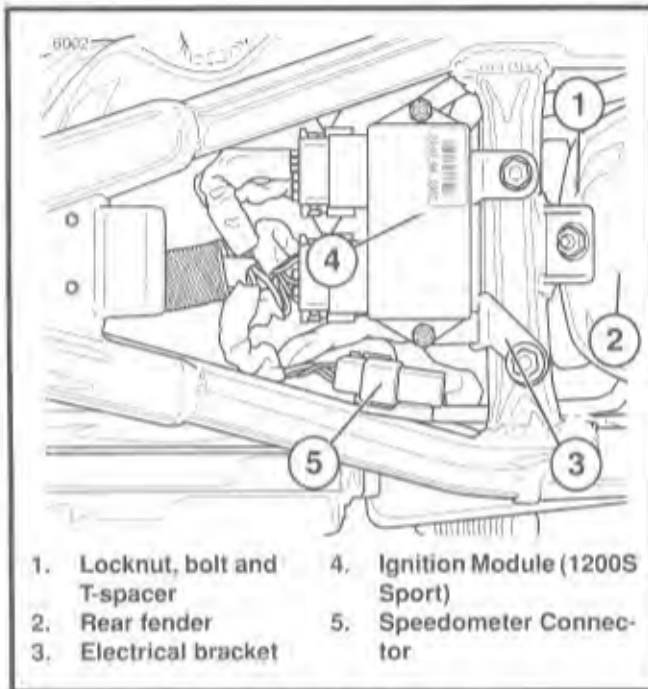

Figure 2-89. Rear Fender Removal
2. See Figure 2-89. Remove locknut, bolt and T-spacer to detach top of rear fender from tab on frame cross member.
4. See Figure 2-89. Note the three electrical connectors taped together in the seat area. Connector # 5 houses the terminal connections for the right rear directional, #6 for the left rear directional while the 4-pin connector #4 in the middle houses the tail/brake light connections.
6. See Figure 2-89. Remove two bolts to detach electrical bracket from frame cross member. Slightly move electrical bracket to draw socket side of connector out of seat area.
13. See Figure 2-89. Align holes in electrical bracket with wellnuts in cross member of motorcycle frame. Install two bolts and tighten to 6-9 in-lbs (0.7-1.0 Nm) torque.